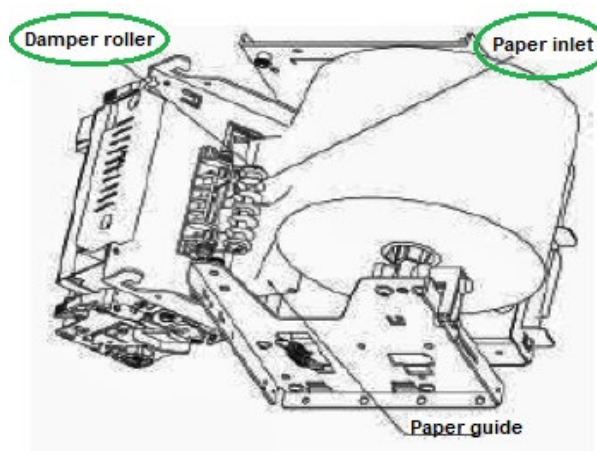

Figure 77. Paper roll feed
- Slide the cut end of the paper roll into the paper inlet under the white plastic damper roller, as shown in Figure 77